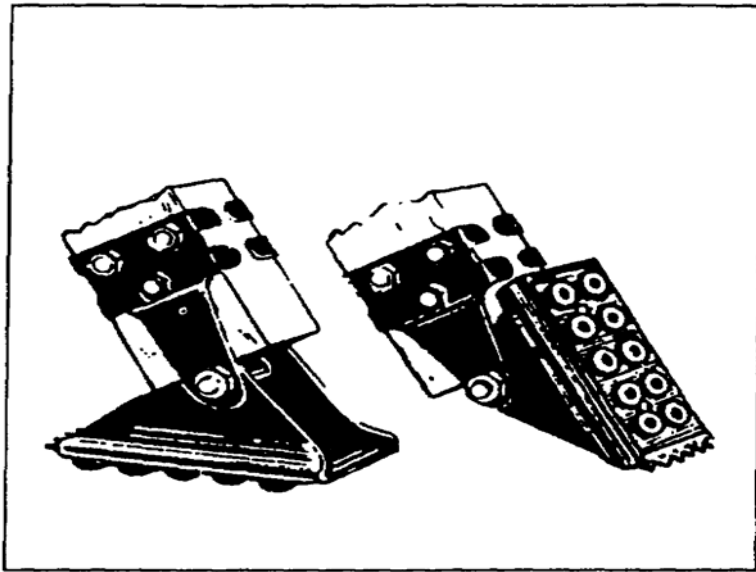

Figure 1-6. Ladder safety shoes
(1) Storage. When storing wood ladders you should-
(2) Use. When placing or using ladders you should-
- Use safety shoes on all straight and extension ladders. When metal ladders are used, shoes should be made of insulating material (Figure 1-6).